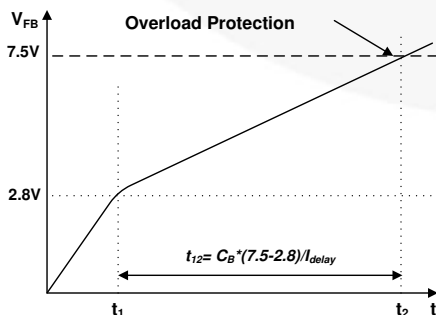

Figure 34. Overload Protection
4.1 Overload Protection (OLP): Overload is defined as the load current exceeding its normal level due to an unexpected abnormal event. In this situation, the protection circuit should trigger to protect the SMPS. However, even when the SMPS is in the normal operation, the over load protection circuit can be triggered during the load transition. To avoid this undesired operation, the overload protection circuit is designed to trigger after a specified time to determine whether it is a transient situation or an overload situation. Because of the pulse-by-pulse current limit capability, the maximum peak current through the SenseFET is limited, and therefore the maximum input power is restricted with a given input voltage. If the output consumes more than this maximum power, the output voltage (V_o) decreases below the set voltage. This reduces the current through the opto-coupler LED, which also reduces the opto-coupler transistor current, thus increasing the feedback voltage (V_{fb}). If V_{fb} exceeds 2.8 V, D_1 is blocked, and the 5 μ A current source starts to charge C_B slowly up to V_{CC} . In this condition, V_{fb} continues increasing until it reaches 7.5 V, then the switching operation is terminated as shown in Figure 34. The delay for shutdown is the time required to charge C_B from 2.8 V to 7.5 V with 5 μ A. In general, a 20~50 ms delay is typical for most applications. OLP is implemented in auto restart mode.